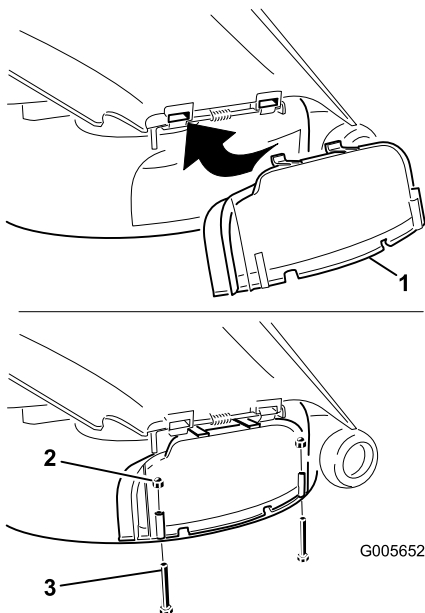

Figure 23
3. Lift the grass deflector and slide the tabs on top of the discharge cover under the grass deflector retaining rod. Rotate the discharge cover down over the opening, and onto the lower lip of the mower (Figure 23).
4. Secure the discharge cover to the lower lip of the mower with two bolts (1/4 x 2-1/2 inches) and two cap nuts (1/4 inch) as shown in Figure 23.